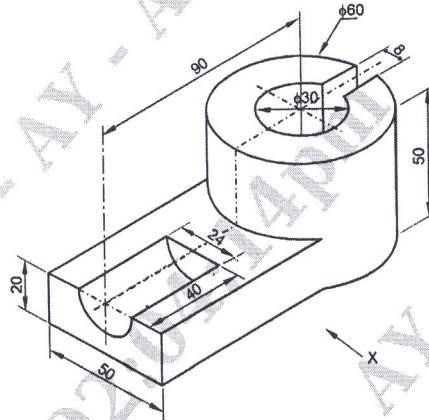

Fig. 1
- Q.No.1** Using First Angle Projection, Draw the Orthographic Views of the object shown in fig. 1 below. **(25 Marks)**